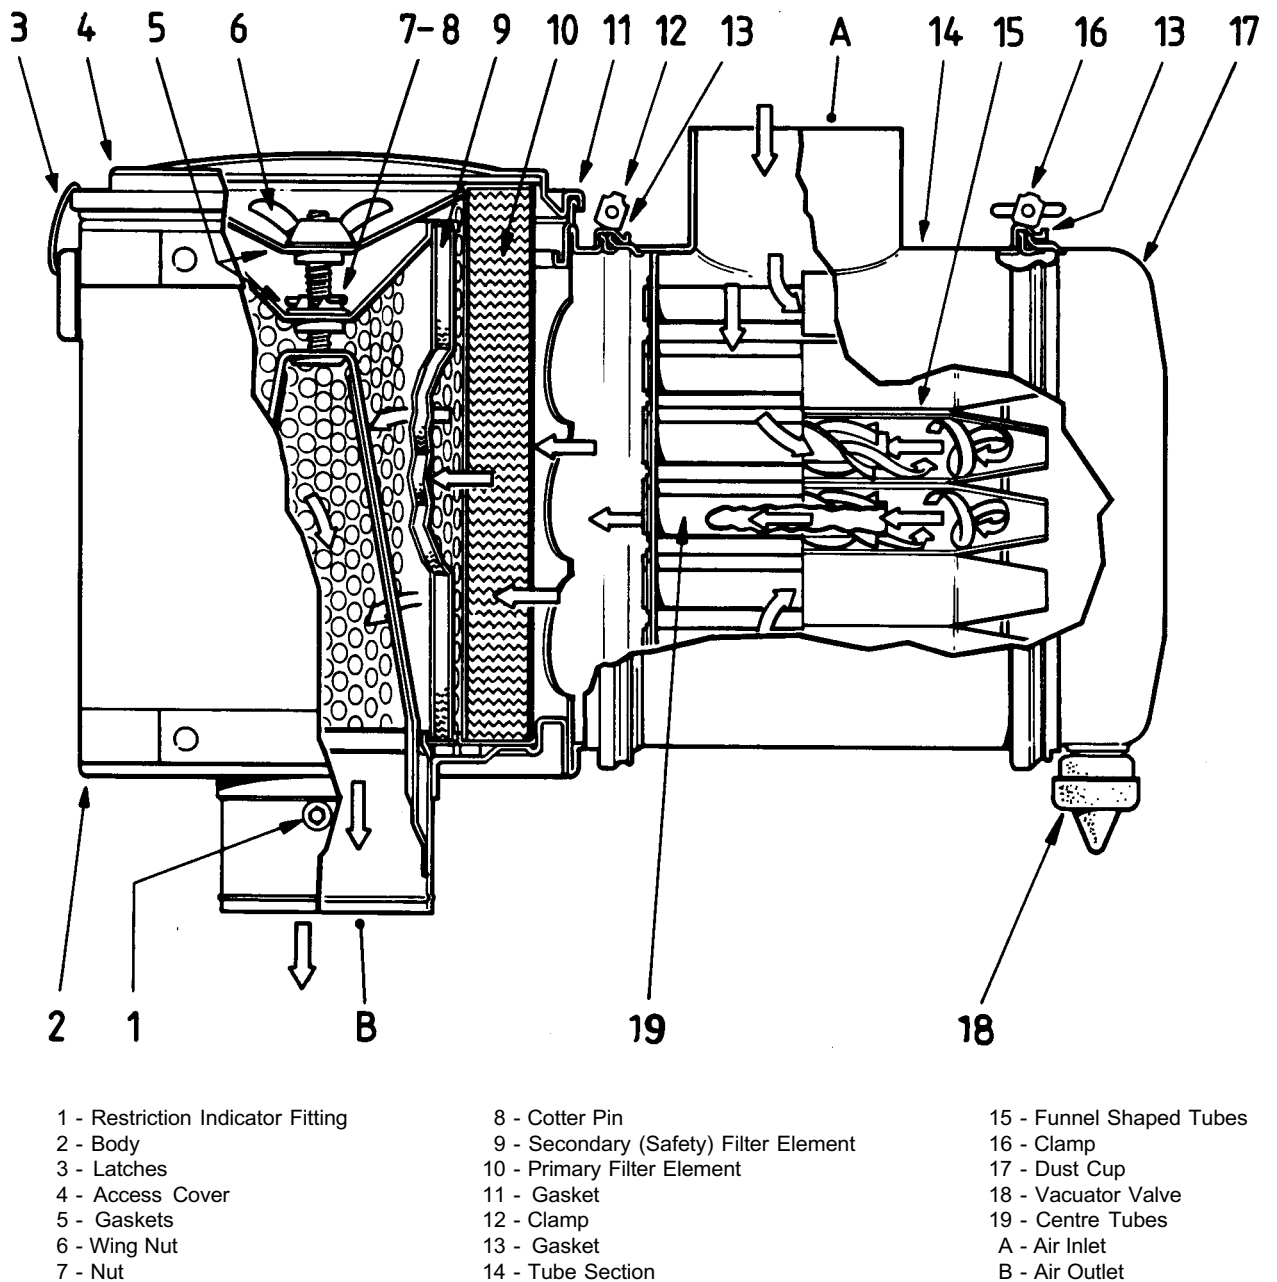

Fig. 1 - Cutaway View of Typical Air Cleaner
1. Attach suitable lifting equipment to engine (1) lifting brackets and carefully position engine (1) assembly in the tractor frame.
2. Secure engine (1) assembly to frame mounting brackets with bolts (13 & 29), snubbing washers (8) washers (9) and locknuts (10) as shown in Fig. 1. Tighten locknuts (10) to a torque of 264 Nm (195 lbf ft).
Numbers in parentheses refer to Fig. 1.